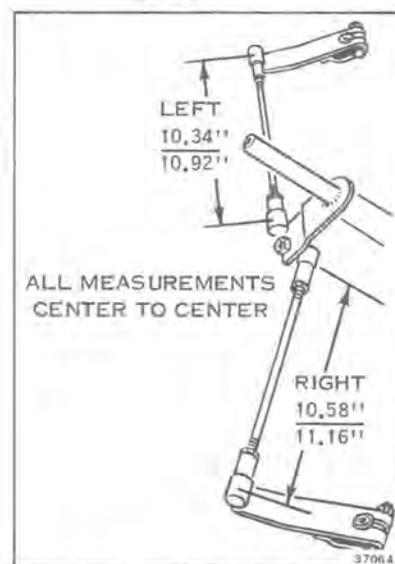

Figure 11-5A
- c. In order to verify your ski alignment use the measurements shown in Figure 11-5A.